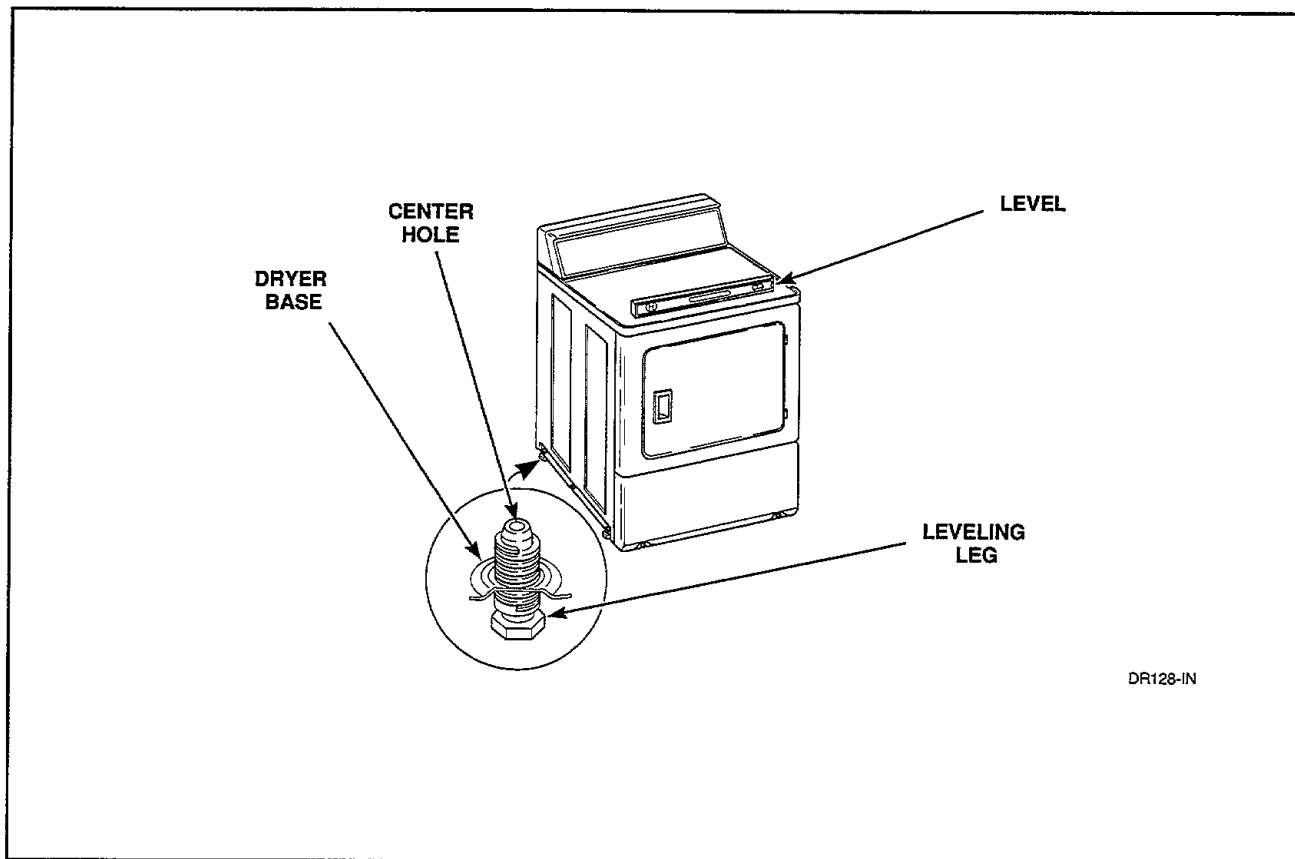

Figure 42
- Remove leveling legs from base and reinstall on new base, *Figure 42*.
42. LEVELING LEGS (Figure 42)